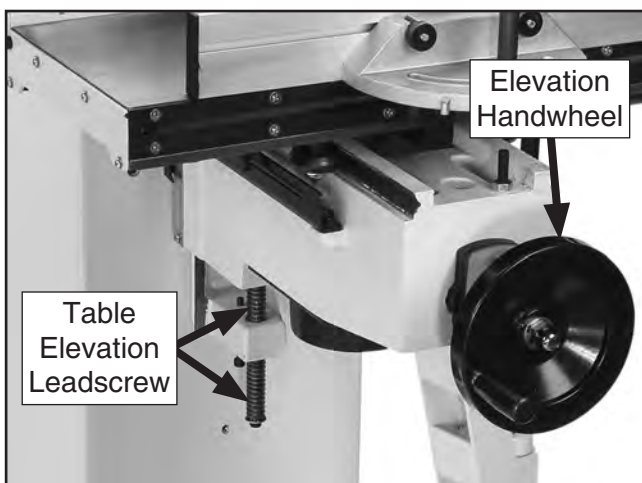

Figure 33. Leadscrew lubrication point.
1. Fully lower table (see **Figure 33**).